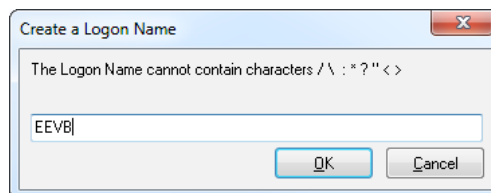

Figure 26: Creating a New Logon Name.
5. **Create a Logon Name:** Click the **New** button to the right of the drop-down box. In the dialog box that appears (see Figure 26) enter the name **EEVB** (you can choose a different name, but we recommend sticking with that one for simplicity, since the Lab Manual assumes it was used). Then either press the **Enter** key or click **OK**.